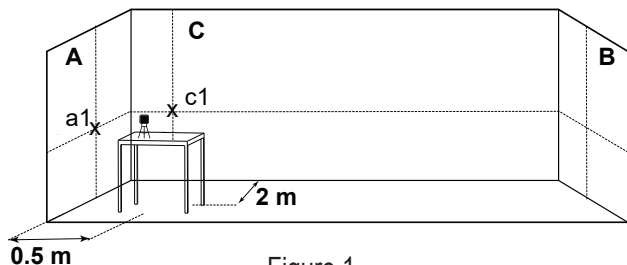

Figure 1
- 5) Mark on wall **A** the intersection point as **a1**, and on wall **C** mark the intersection point as **c1** (see figure 1).